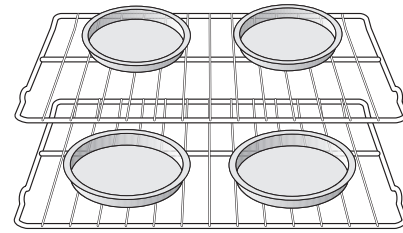
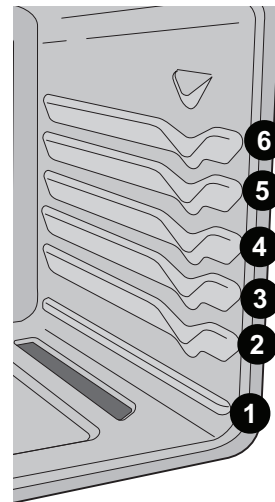

Figure 22: Baking on multiple levels
Figure 23: Oven rack positions
- For best results when baking cakes or cookies using two oven racks, place racks in positions 3 and 5 (See Figure 23) and position bakeware as shown in Figure 22. Allow at least 2 inches (5 cm) of space between bakeware for proper air circulation.